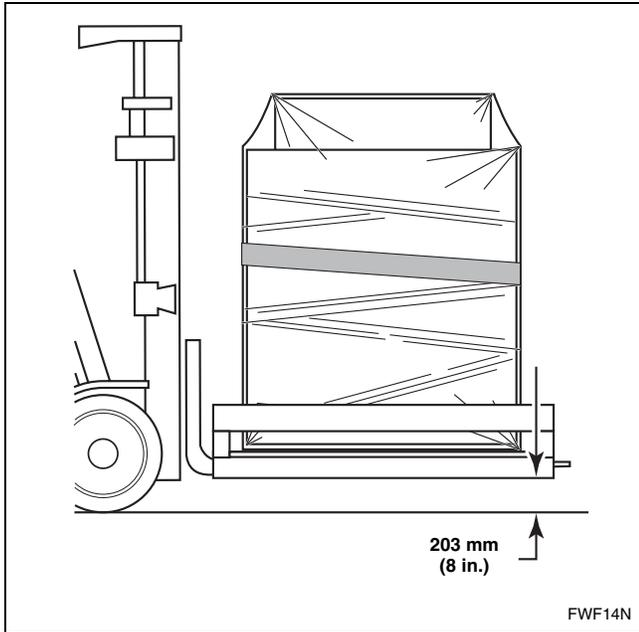

Figure 3
- Use the forklift to carefully lift the packaged finisher. Refer to *Figure 3*.